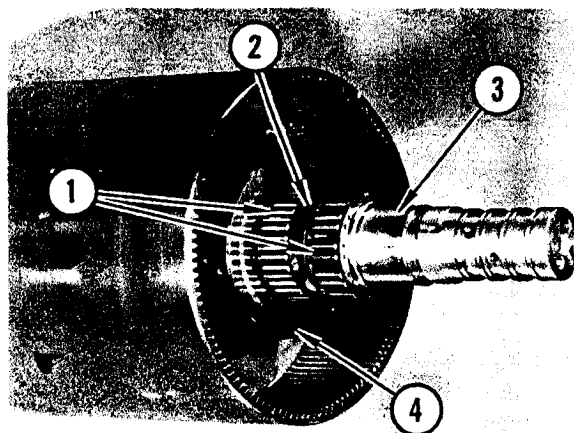

FIGURE 50. BEARING REMOVAL
Refer to Figure 50. Remove bearings (1) and spacer (2).